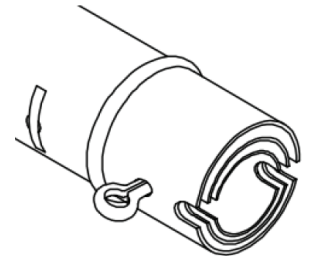
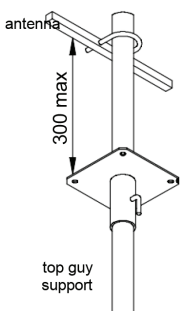
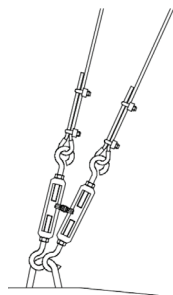

Fig 2 Shipping Pin
Fig 3 Antenna Position
Fig 4 Wired Turnbuckles
3. Remove shipping pin (fig 2) from bottom of mast and the small screw from the top lock rings. Slide the top guy support and the top guy plate off the mast and replace them in opposite order. Screw the lock screws (from the accessory bag) into the lock rings, making sure that the lock screw just protrudes into the top hole in each mast section, except the top section which will have its lock ring tightened 300mm below antenna position (fig 3). Install thimbles in the guy plates and attach the guy wires with wire rope grips. Three wire rope grips should be used at each end of the guy wire. Fit the bridge of the wire rope grip to the loaded part of the rope (fig 4).
Attach the guy wires at the correct anchor points, but do not tighten fully. Turn the mast until antenna gives best results, and then tighten all guy wires evenly, ensuring that the mast remains straight and vertical. Guy pretension is to be 10% of the specified guy minimum breaking force. For the recommended 7/1.25 G380 guying strand, pretension is to be 32 kg. Pretension may be checked by attaching the lifting hook of a suitable spring balance to the lower guy thimble and applying sufficient force to pull the lower guy thimble out of contact with the lower anchor. For added security, wire turnbuckles to each other (fig 4).